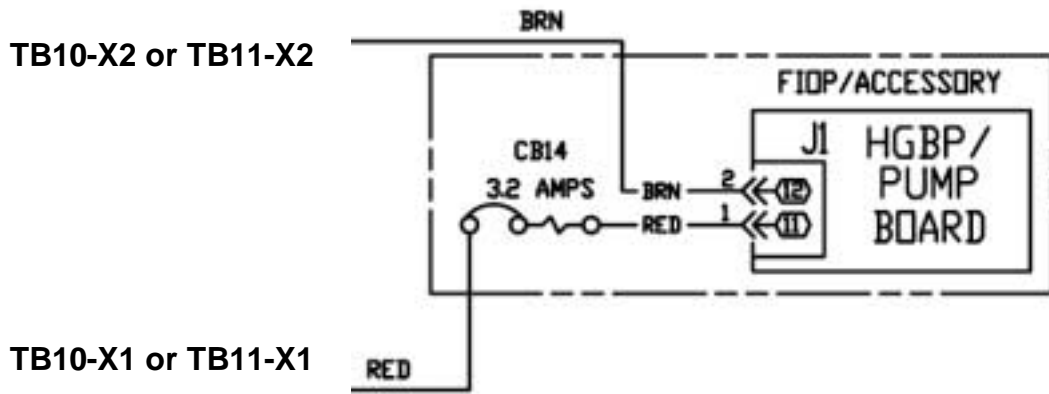

Fig. 1 – Pump Board 24V power wiring
3. Connect the 24V power from TB10-X1(30XA080-120, 460V, 575V only) or TB11-X1(all other units) to CB14 with a red wire in the harness assembly TYZ:TH70400864 provided in the kit. Find a 2 pin plug marked J1-11,12 with a red wire and a brown in the harness assembly. Connect the plug to the pump board J1. On the other end, connect the red wire from the plug to CB14 and the brown wire to TB10-X2(30XA080-120, 460V, 575V only) or TB11-X2(all other units). Refer to the schematics as Fig. 1.